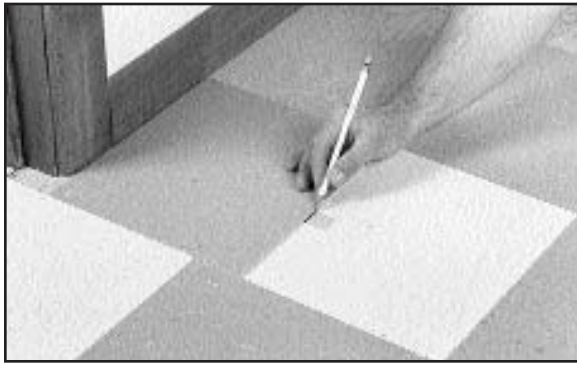

Fig. 8.
2. Place a mark along the back edge of Tile A (Figure 8).